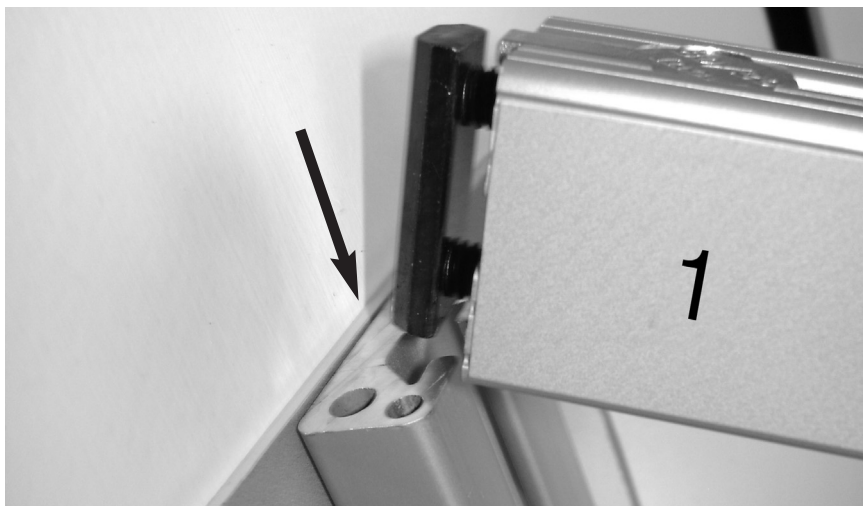

Figure 4 – Positioning slide to insert into T-track
1. Mount the 18" extension bar to the upper t-track by sliding the black tab into the top of track (eye bolt down). If too tight, loosen socket bolts in cams slightly (about a quarter turn). (Figure 4)